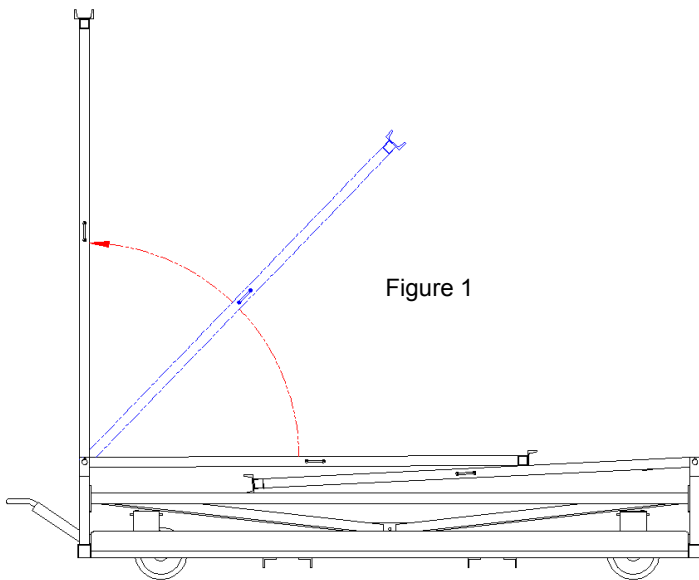
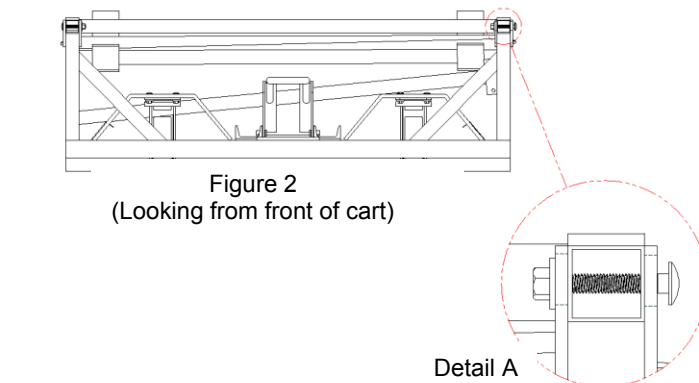

Figure 1
Figure 2
2. To stand ends up, (Figure 1), loosen the 3/8" carriage bolts so the square neck of the bolt is not engaged in the tab (Figure 2, Detail A). This allows you to easily lift and rotate end into position.